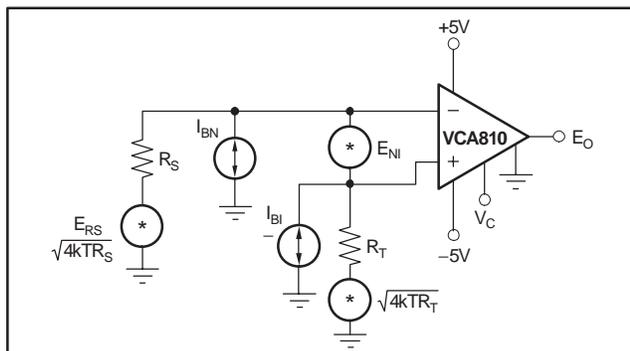

Figure 20. VCA810 Noise Analysis Model
The VCA810 offers $2.4\text{nV}/\sqrt{\text{Hz}}$ input-referred voltage noise and $1.8\text{pA}/\sqrt{\text{Hz}}$ input-referred current noise at a gain of $+40\text{dB}$. The input-referred voltage noise, and the input-referred current noise terms, combine to give low output noise under a wide variety of operating conditions. Figure 20 shows the op amp noise analysis model with all the noise terms included. In this model, all noise terms are taken to be noise voltage or current density terms in either $\text{nV}/\sqrt{\text{Hz}}$ or $\text{pA}/\sqrt{\text{Hz}}$.
The total output spot noise voltage can be computed as the square root of the sum of all squared output noise voltage contributors. Equation (8) shows the general form for the output noise voltage using the terms shown in Figure 20.